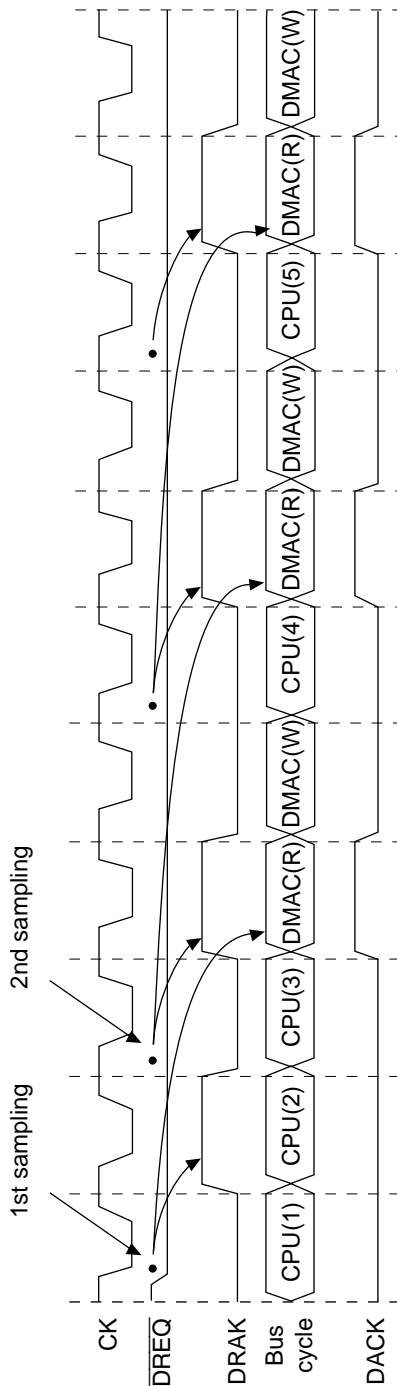
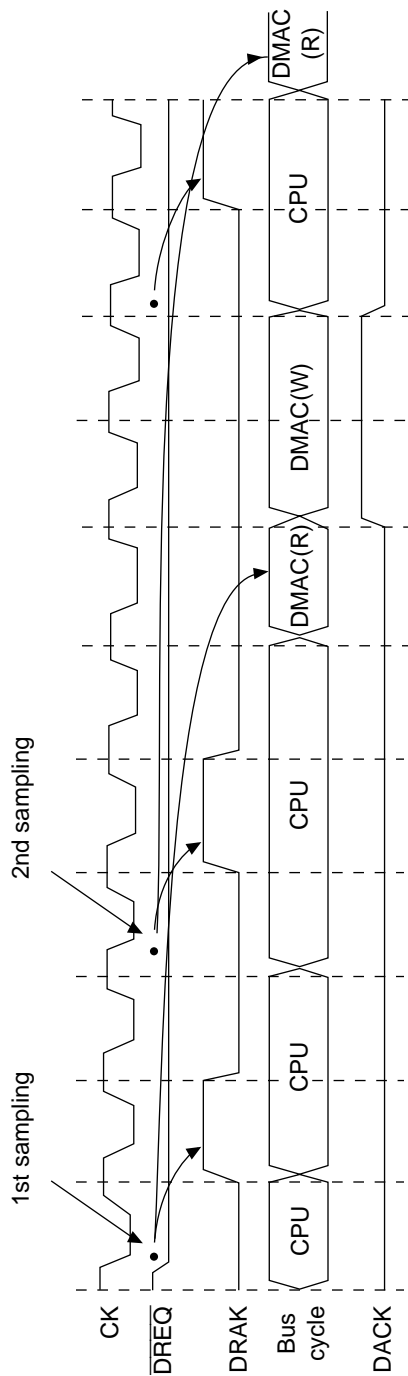

Figure 9.9 Cycle Steal, Dual Address and Level Detection (Fastest Operation)
Figure 9.10 Cycle Steal, Dual Address and Level Detection (Normal Operation)
For example, DMAC transfer begins (figure 9.9), at the earliest, three cycles from the first sampling timing. The second sampling begins at the start of the transfer one bus cycle prior to the start of the DMAC transfer initiated by the first sampling (i.e., from the start of the CPU(3) transfer). At this point, if DREQ detection has not occurred, sampling is executed every cycle thereafter.
As in figure 9.10, whatever cycle the CPU transfer cycle is, the next sampling begins from the start of the transfer one bus cycle before the DMAC transfer begins.
Figure 9.9 shows an example of output during DACK read and figure 9.10 an example of output during DACK write.